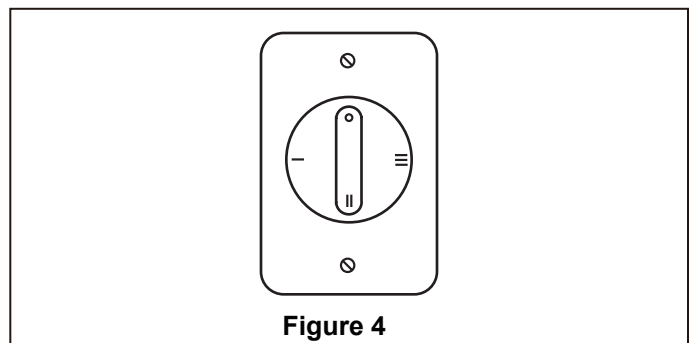

Figure 4
5. Check the operation of the fan by rotating the control through the four positions marked 0 - III ("0" position is OFF) (Figure 4).